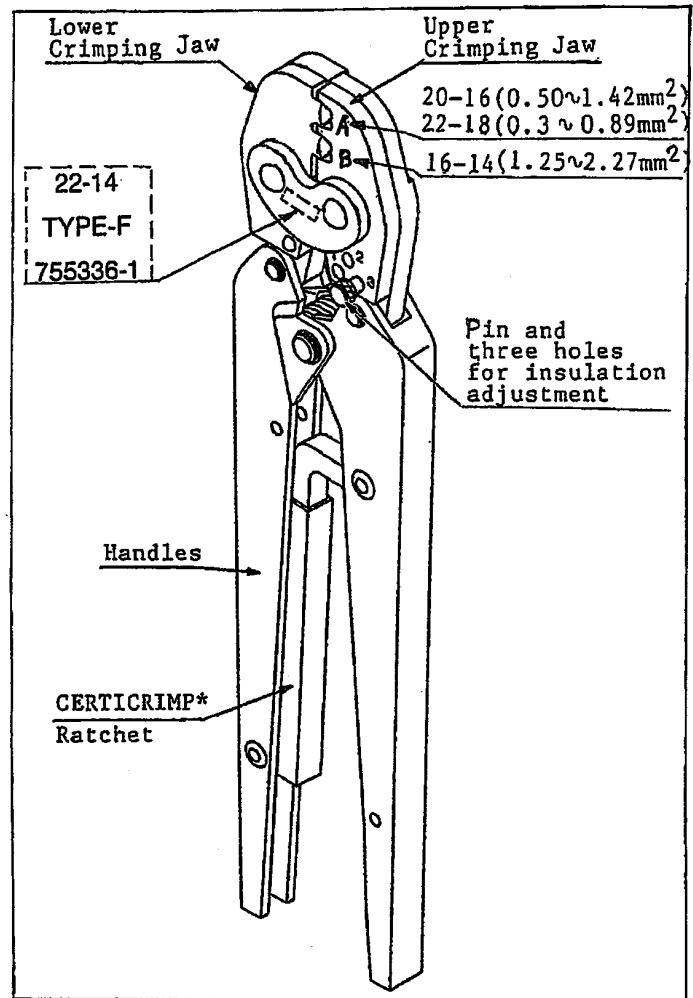

Fig. 1
- The tool (See Fig. 1) covered by this Instruction Sheet crimps the applicable terminals listed in the chart (Fig. 2) below.